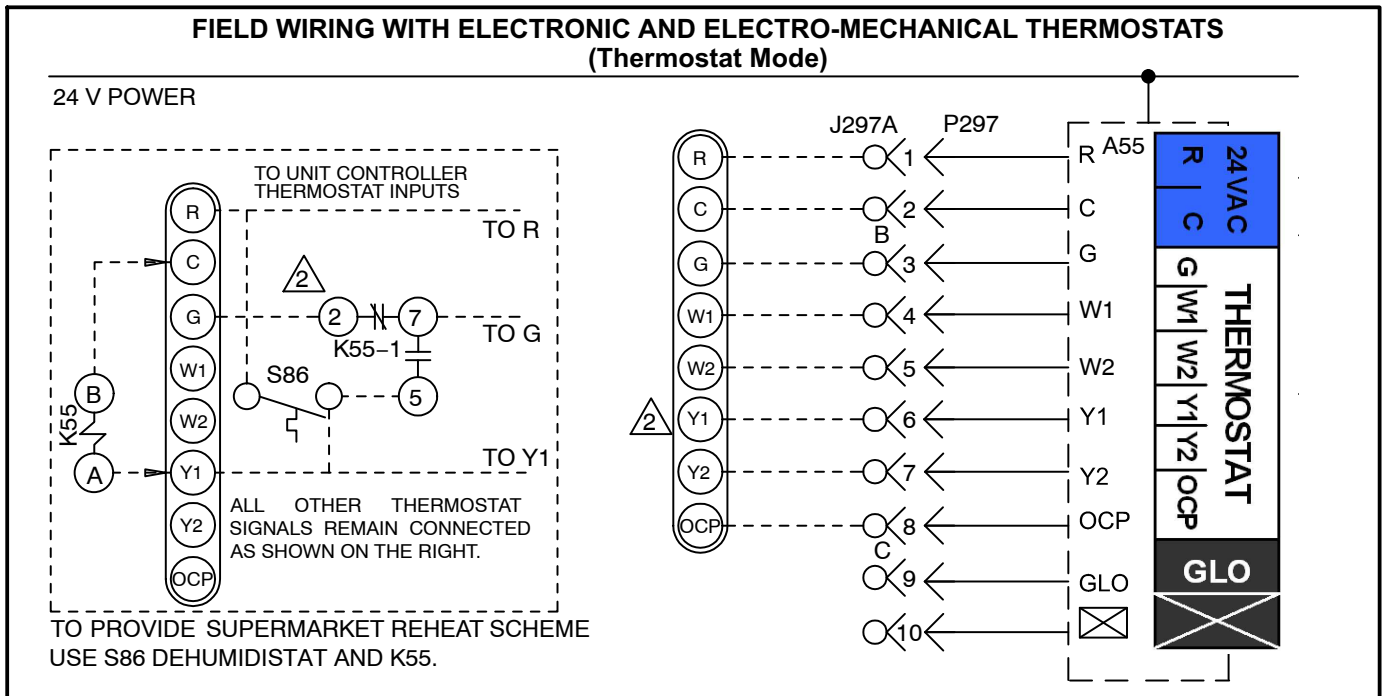

FIGURE 15
- 4- Wire as shown in figure 15 for electro-mechanical and electronic thermostats. If using other temperature control devices or energy management systems see instructions and wiring diagram provided by manufacturer.